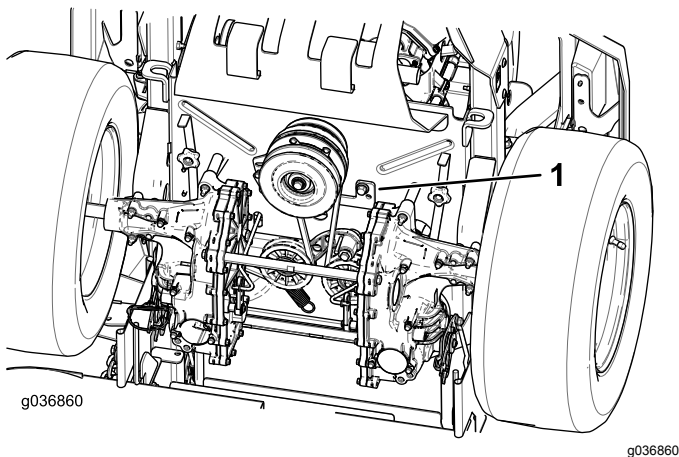

Figure 65
5. Remove the clutch stop (Figure 65).
9. Install the clutch stop (Figure 65).